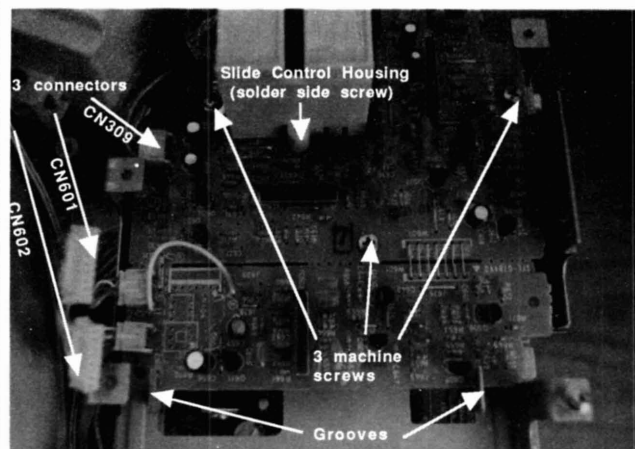

Figure 9
25. EQ/Tone Control PCB Removal (Figure 9)
26. EQ/Tone Control PCB Replacement (Figure 9)